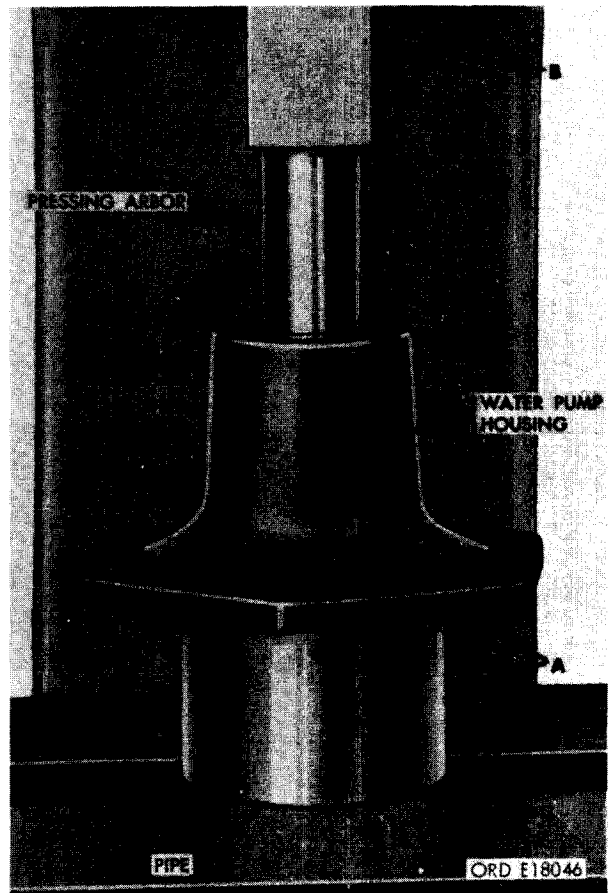

FIGURE 124. REMOVING WATER SEAL FROM WATER PUMP HOUSING.
- (8) Figure 124. (A) Mount water pump housing over a piece of pipe, with an inside diameter large enough to completely clear water pump seal. Support pipe and pump housing on press plates as shown. (B) Remove water pump seal out of water pump housing using a suitable pressing arbor.